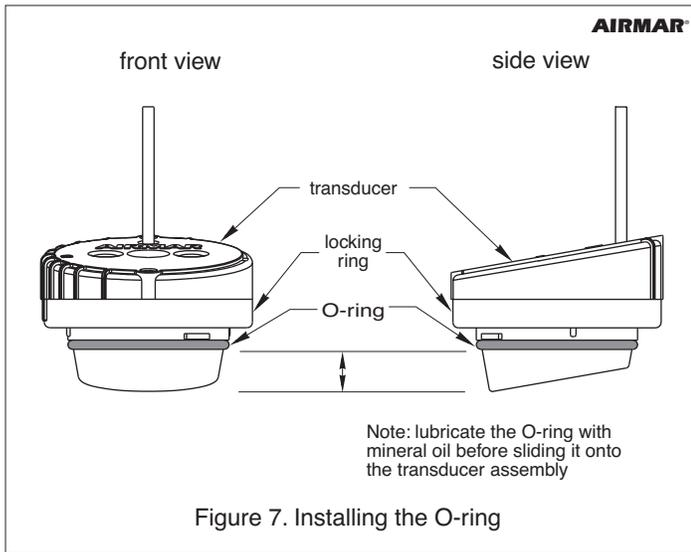

Figure 7. Installing the O-ring
8. Lubricate the O-ring with mineral oil. This will help to seal the assembly and prevent the mineral oil from leaking. Slide the O-ring onto the transducer assembly (see Figure 7).